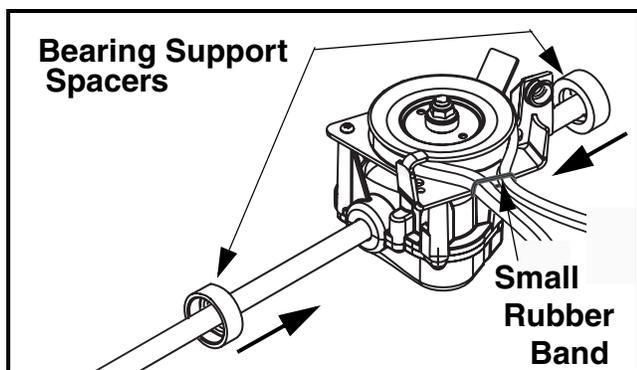

FIGURE 16
29. Install the belt onto the new Transmission (Item 1) pulley. Ensure the belt is inside of the transmission's belt guides. Place a small rubber band around the belt to hold the belt onto the pulley and within the guides. See Figure 16.
31. Slide a Bearing Support Spacer, Item 7, onto each end of the transmission's output shafts. The smaller diameter bore of the spacer must be next to the transmission body. See Figure 16.